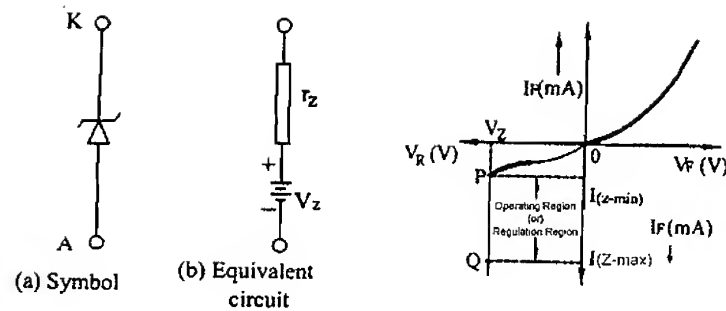

Fig:14.25
Zener diode is a specially designed PN junction diode. It is a heavily doped PN junction diode. The symbol and equivalent circuit of a Zener diode is shown in the Fig: 14.25(a) and (b).
The operation of the Zener diode is same as that of an ordinary PN junction diode in forward biased condition. But in reverse biased condition, break down may occur in the junction of the diode. The breakdown voltage depends upon the amount of doping. Heavily doped diodes breakdown at low voltage levels. Similarly, lower doped diodes breakdown at high voltage levels. The VI characteristics of Zener diode is shown in the Fig:14.25 (C).